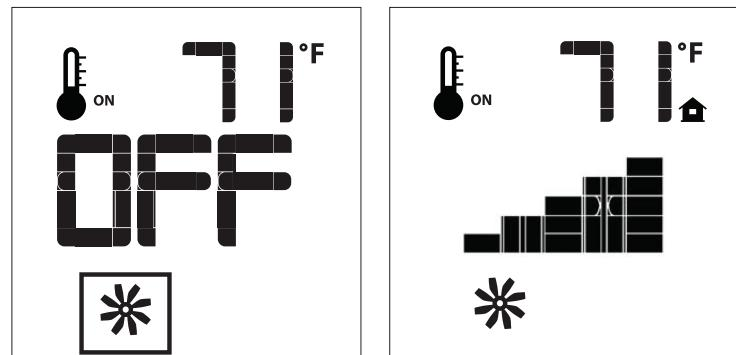

Figure 13: Fan Control
The Q3LI comes with a convection fan that can be controlled with the Transmitter. The fan speed can be adjusted through six (6) speeds. To control the fan press the MODE key (Figure 5) to index to the fan control icon (Figure 13). Use the UP/DOWN arrow keys to turn on, off, or adjust the fan speed (Figure 13). A single beep from the IFC will confirm the command has been received